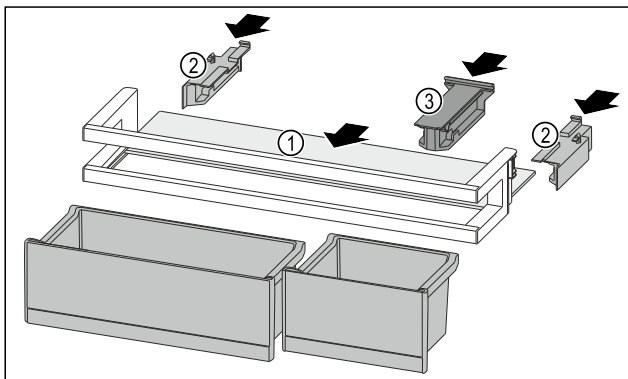

Fig. 118
- ▶ Push the shelf Fig. 118 (1) into the side recesses.
- ▶ Insert the side parts Fig. 118 (2).
- ▶ Insert the holding part Fig. 118 (3).